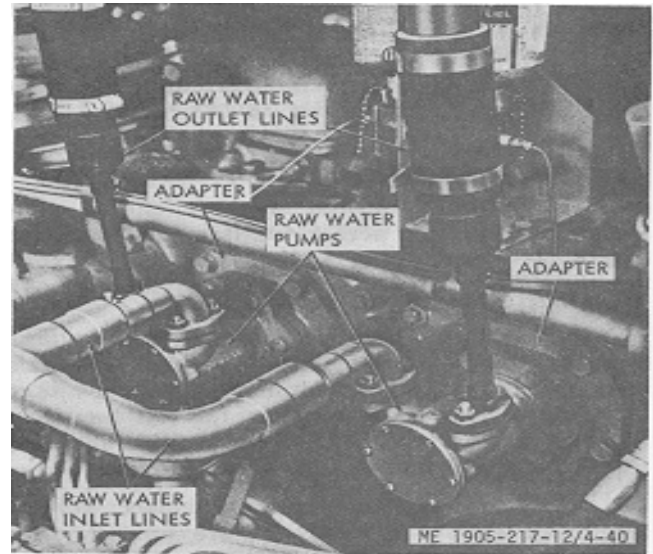

Figure 4-40. Raw (sea) water pump mountings.
*a. General.* Raw water pumps are mounted on the flywheel housing of each engine and driven by a coupling from the end of the camshaft. See figure 4-40. The impeller is self-lubricated by
- (1) Remove nuts holding inlet and outlet fittings (fig. 4-40) to water pump. Hull numbers 8540 thru 8560 and 8580 thru 8618 have four nuts at each port mounting flange.
- (2) Remove adapter to flywheel housing bolts and lockwashers.
- (3) Using wood block or soft hammer, loosen pump from flywheel housing by tapping on edge of adaptor.
- (4) Withdraw pump straight out from fly-wheel housing, disengaging drive gear from coupling.